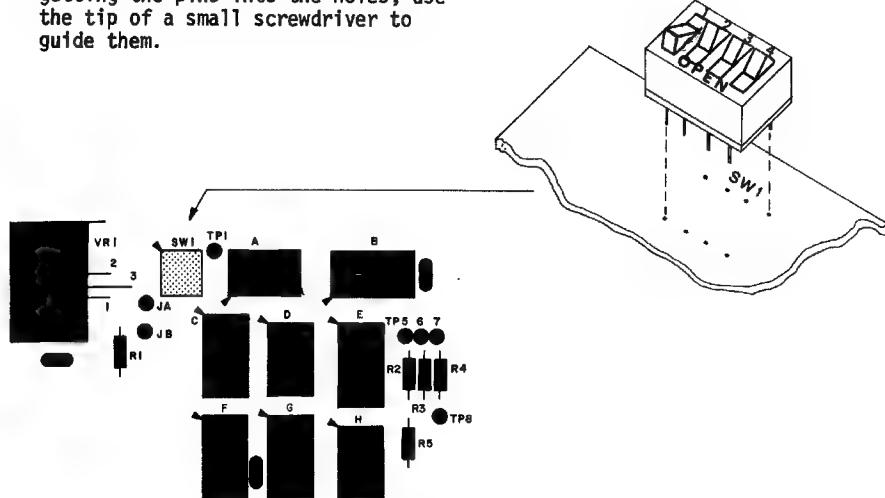

Figure 3-8. Address Switch Installation
(Figure 3-8)
2. Orient the switch so that the numbers 1,2,3,4 line up directly under SW1 as shown in Figure 3-8.